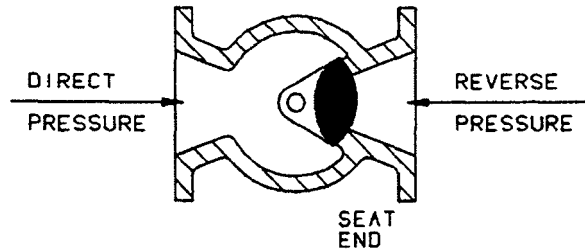

Figure 2 – Pressure Direction
**Direct Pressure** - When the higher pressure is at the end opposite the seat. See Figure 2.
**Reverse Pressure** - When the higher pressure is at the seat end of the valve. See Figure 2.